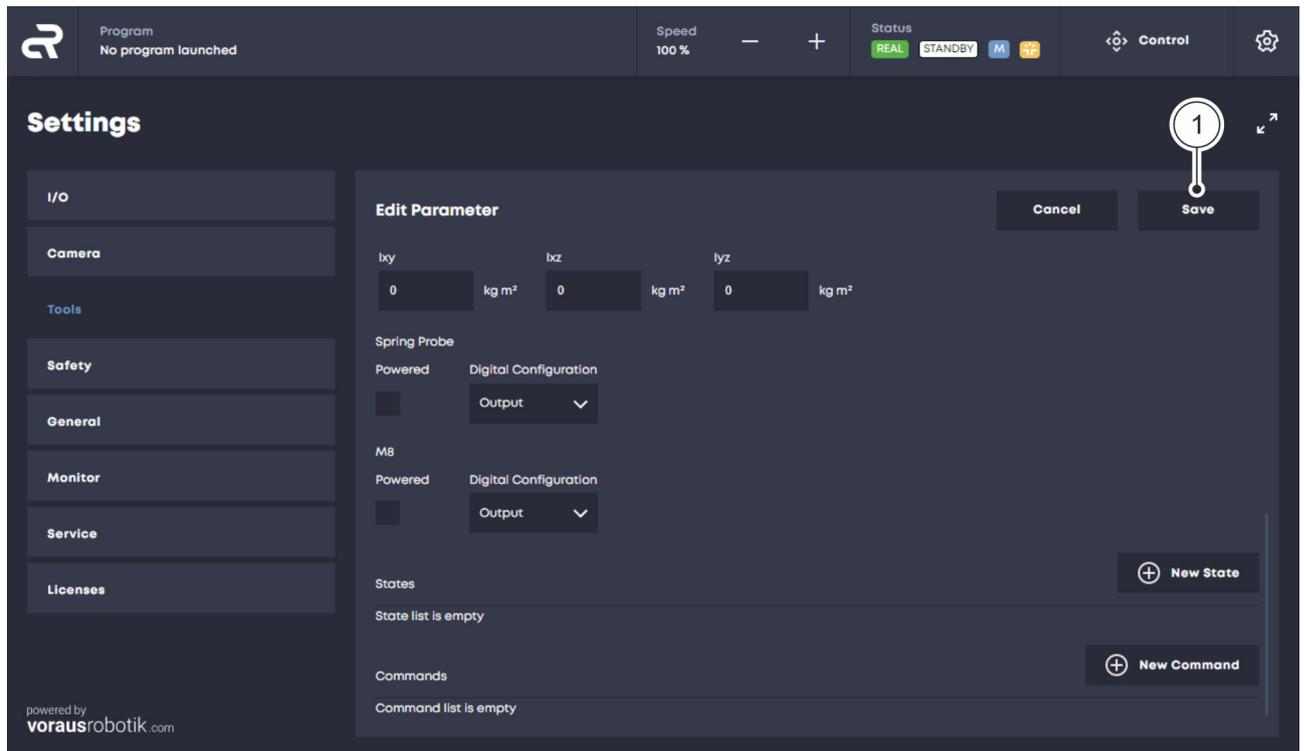

Fig. 25 Saving tool parameters
11. Click the 'Save' button to save the tool parameters Fig. 25/1.